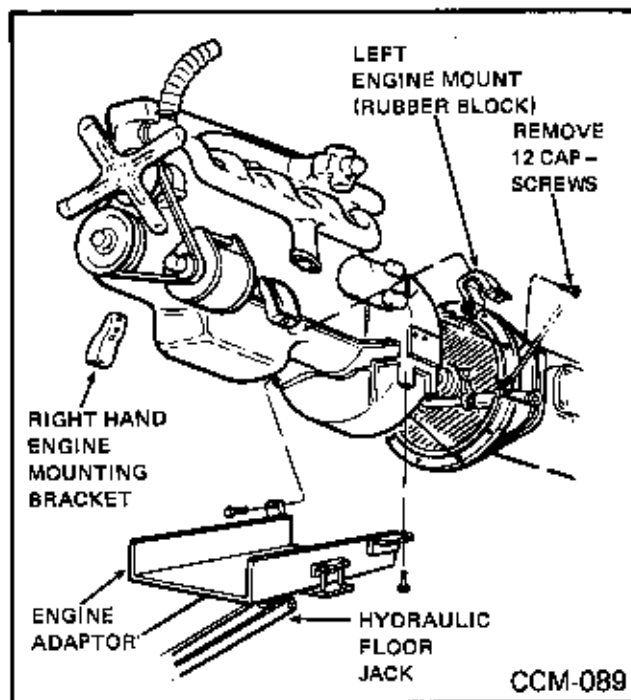

Fig. 84
11. Fasten engine adapter to engine by using the two engine bolts (Fig. 84) and place slight tension on jack.
12. Remove left engine mount (rubber block) by removing three hex nuts and allowing rubber block to come out. (Fig. 84)
15. Remove 12 capscrews holding transmission to engine bell housing. (Fig. 84)